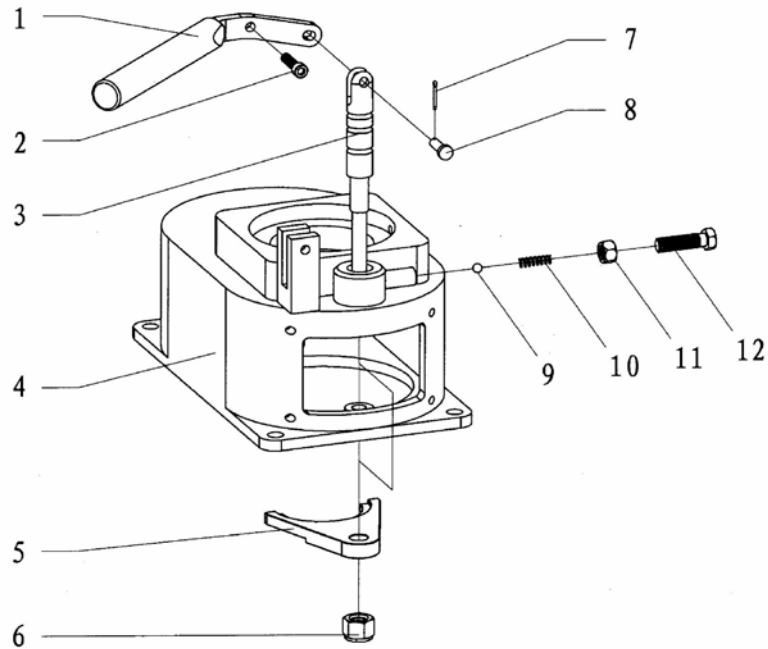

Fig. 11
- Gear engagement assembly (**Fig11, Table8**)